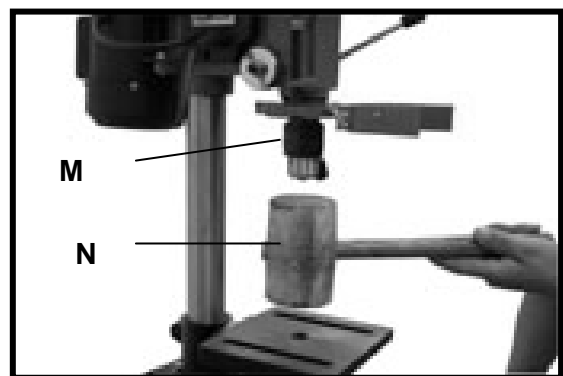

Fig. 10
7. **IMPORTANT:** Open the chuck jaws as wide as possible by turning the chuck sleeve (M) Fig. 10.
8. Holding chuck on taper of spindle, tap with a soft tip hammer (N) or a block of wood and hammer to set chuck, as shown in Fig. 10. **IMPORTANT:** To avoid damage to the chuck, NEVER drive the chuck onto the spindle with a metal hammer.